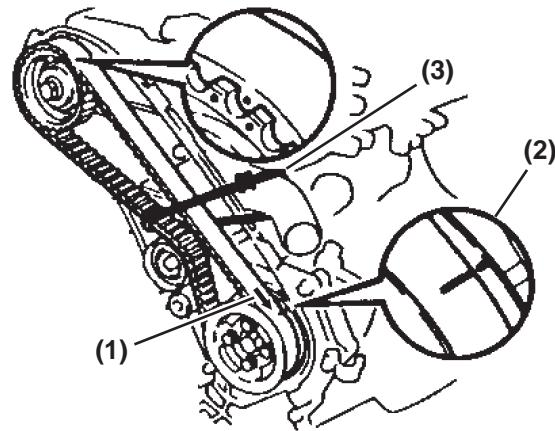

Figure 5-159
- Draw an arrow mark (Figure 5-159, (1)) on the timing belt, indicating the operation direction (engine revolution direction) and then match marks (Figure 5-159, (2)) both on the timing pulley and timing belt.
- Secure the belt by string (Figure 5-159, (3)) so that the engagement between the timing pulley and timing belt will not be disconnected.